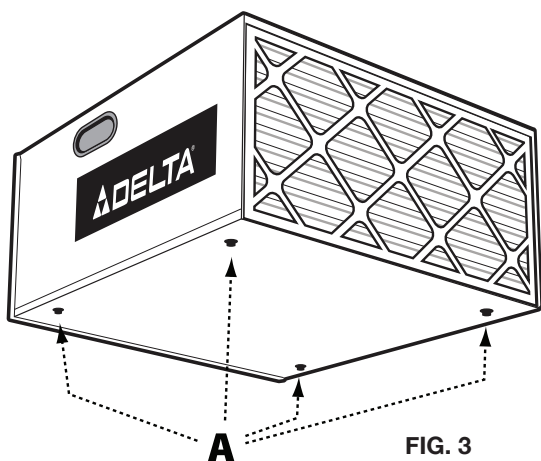

FIG. 3
Locate (4) self-adhesive rubber feet (A) Fig. 3 supplied with the unit. Carefully place the Air Cleaner on a firm supporting surface with access to the bottom of the cabinet. Apply a self-adhesive rubber foot (A) Fig. 3 to the bottom at each corner of the air cleaner cabinet. The rubber feet will help eliminate vibration and will prevent the possibility of the air cleaner "walking" across the floor or work surface.